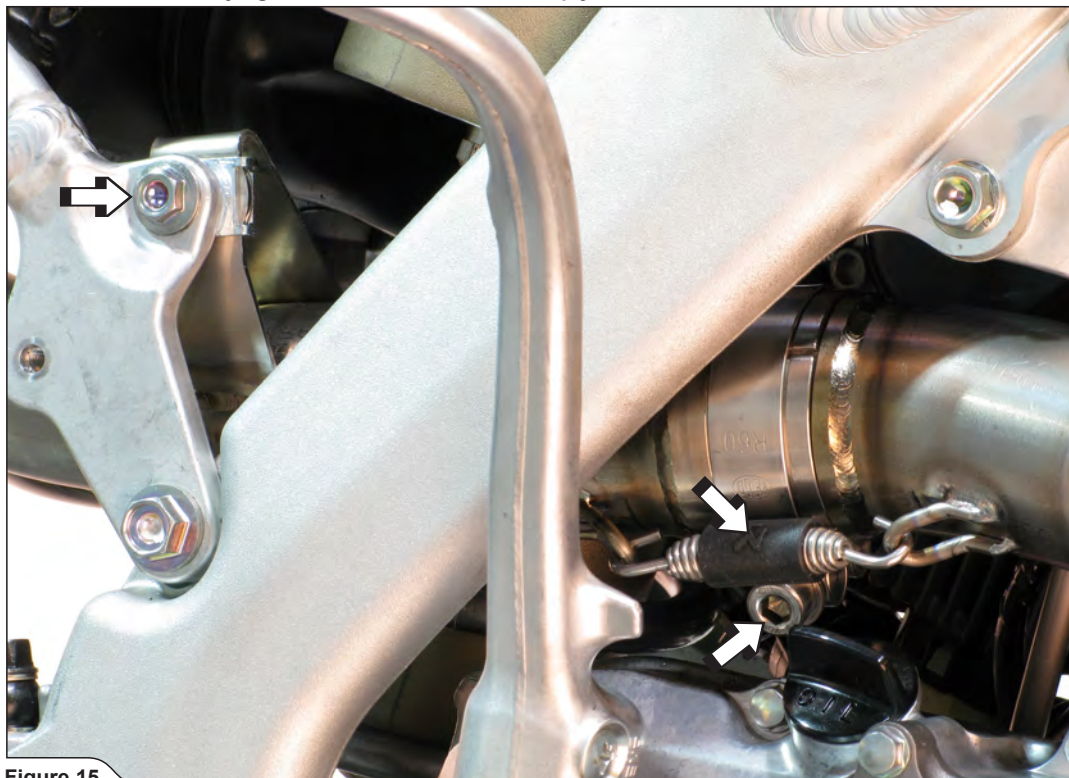

Figure 15
7. Position the link pipe correctly, slide it onto the outlet side of the header pipe; attach the spring and hand tighten the link pipe's bracket to the frame (using stock bolt) and clamp (**Figure 15**).